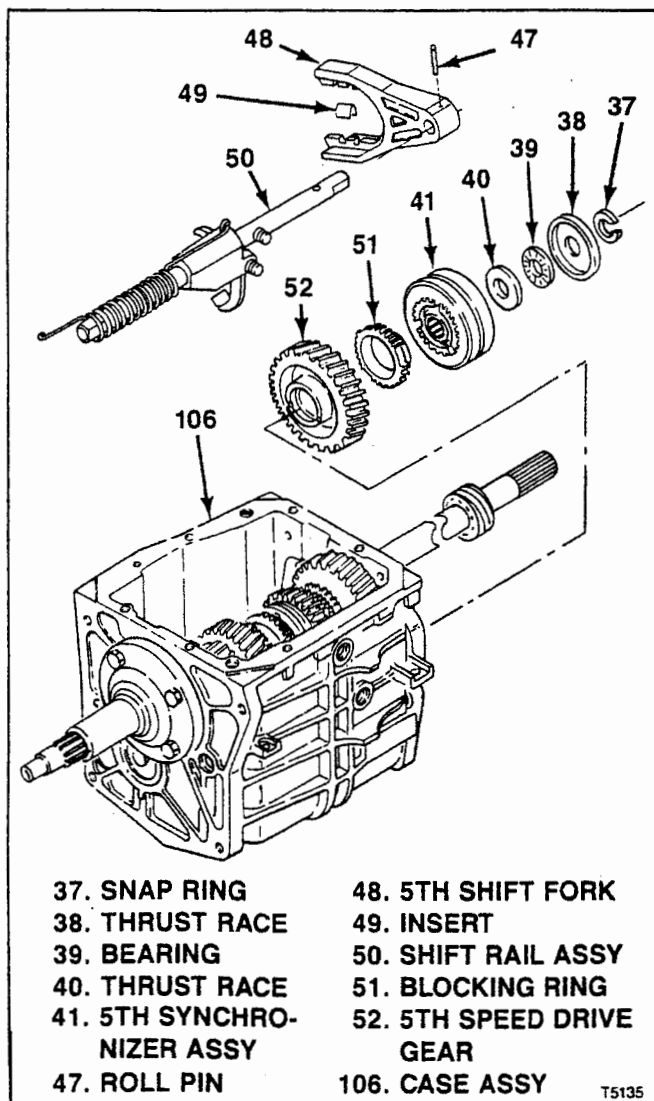

Figure 4-5. T5 NWC 5th Synchronizer, Shift Fork and Gear
c. Work 5-R shift lever (36) out of engagement and lift out top of transmission case (106).
4-11. REMOVAL OF T5 NWC 5TH SYNCHRONIZER, SHIFT FORK AND GEAR. At rear of transmission case (106), remove parts as follows (see figure 4-5):
- a. Remove snap ring (37), thrust race (38), bearing (39) and thrust race (40).
- b. Simultaneously pull 5th synchronizer assembly (41) and 5th shift fork (48) with attached shift rail assembly (50).